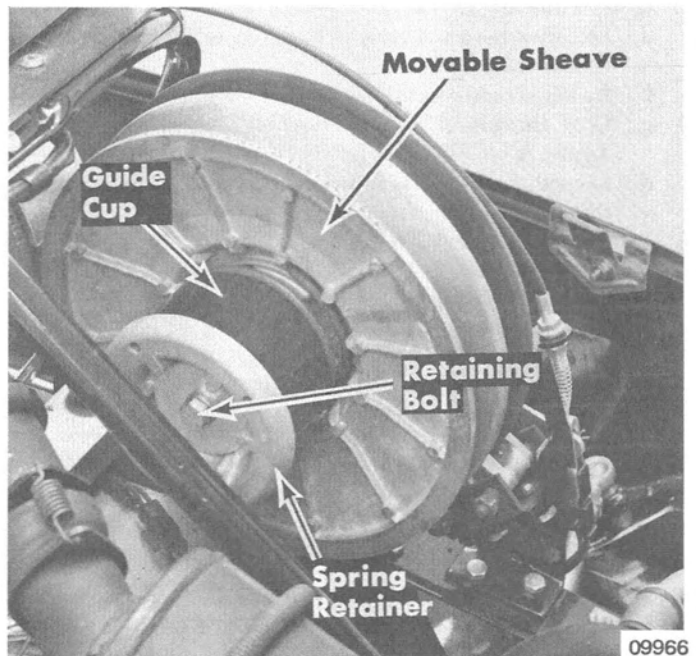

Figure 1. Mercury Driven Sheave
2. Scribe a mark on spring retainer and another mark on movable sheave (aligned with mark on spring retainer) for reference during readjustment. (Figure 1)
3. Apply snowmobile brake. Using marks scribed on driven sheave as reference, push in on spring retainer and increase (rotate retainer clockwise) or decrease (rotate retainer counterclockwise) spring preload of driven sheave return spring as desired, then allow spring retainer to return to locked position. (Figure 1)
retainer to rotate counterclockwise until tension is released. (Figure 1)